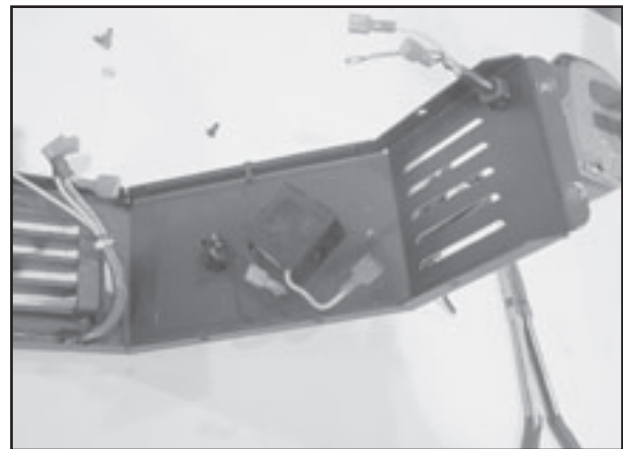

Figure 20.2
3. Disconnect all the wires from the switch, rheostat and power cord (**Figure 20.2**).
6. Remove the heat shield from the housing. First remove the screw on the bottom of the housing that holds the heat shield support. Second, remove the three flat head screws that hold the shield to the housing (**Figures 20.2 and 20.3**).